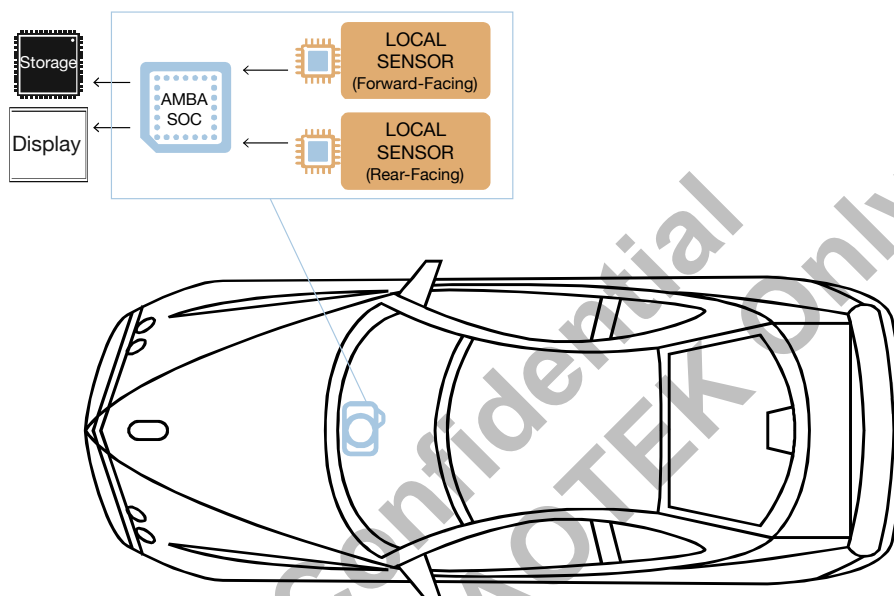

Figure 1-2. A12A25 Automotive Video Camera Application: Two-Channel Standalone with Two Local Sensors.
- Two local sensors generate two distinct inputs to the A12A25 SoC (Figure 1-2)